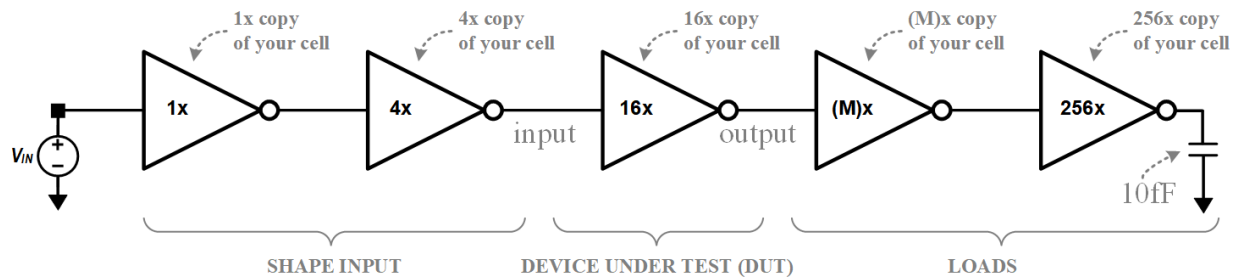

Fig. 4: Circuit template to be used
- Q5. Report the frequency, rising time, and falling time of the generated clock (CLK_{out} in Fig.4) from your RO. Analyze the factors that may affect the three values.